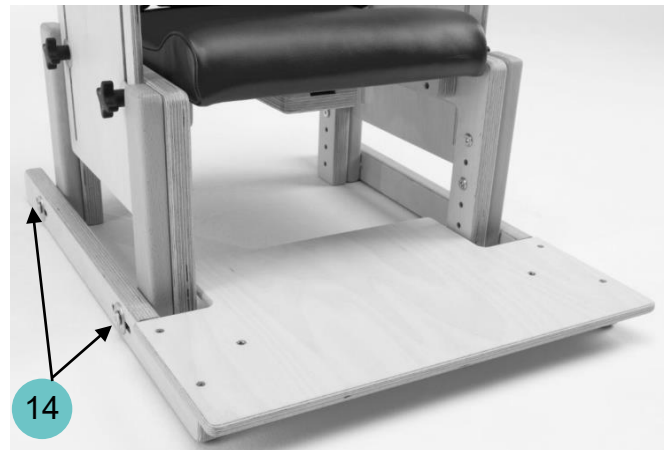

Figure 13
- The screws fit into the chair outriggers on each side of the chair (*Ref. 14 of Figure 13*)
- The footboard can be reversed by removing four screws (*Ref. 14 of Figure 13*), rotating the complete board and ski assembly and reattaching.